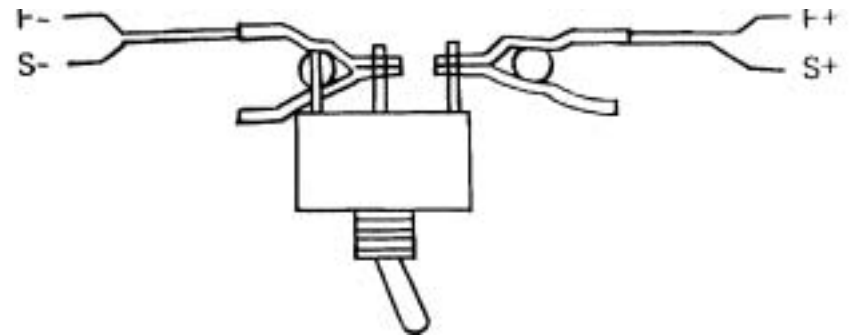

FIG. 4
1. Connect the switch to be tested as shown in Fig. 4